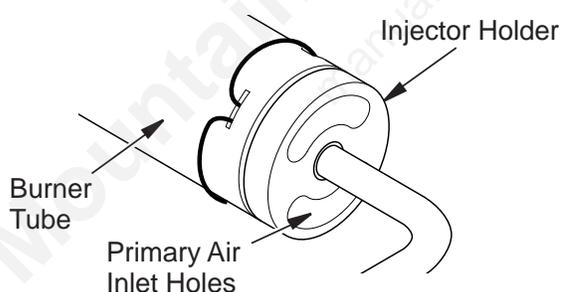

Figure 37 - Injector Holder On Outlet Burner Tube
2. Inspect burner, pilot and primary air inlet holes on injector holder for dust and dirt (see **Figure 37**).